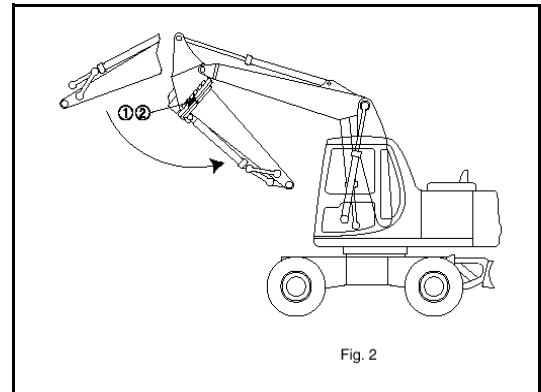

Fig. 2
5. Align arrows & on swing circle. (Fig. 2)
6. Retract the arm cylinder approximately half-way. (Fig. 2)